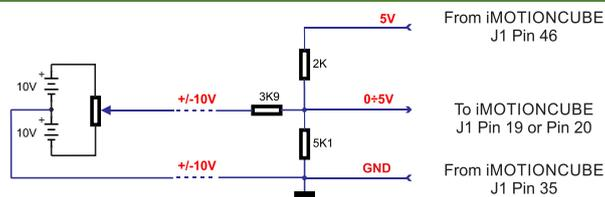

Figure 3.14. +/-10V to 0-5V adapter
1. Default input range for analog inputs is 0-5 V for REF and FBDK. For a +/-10 V range, see Figure 3.14.